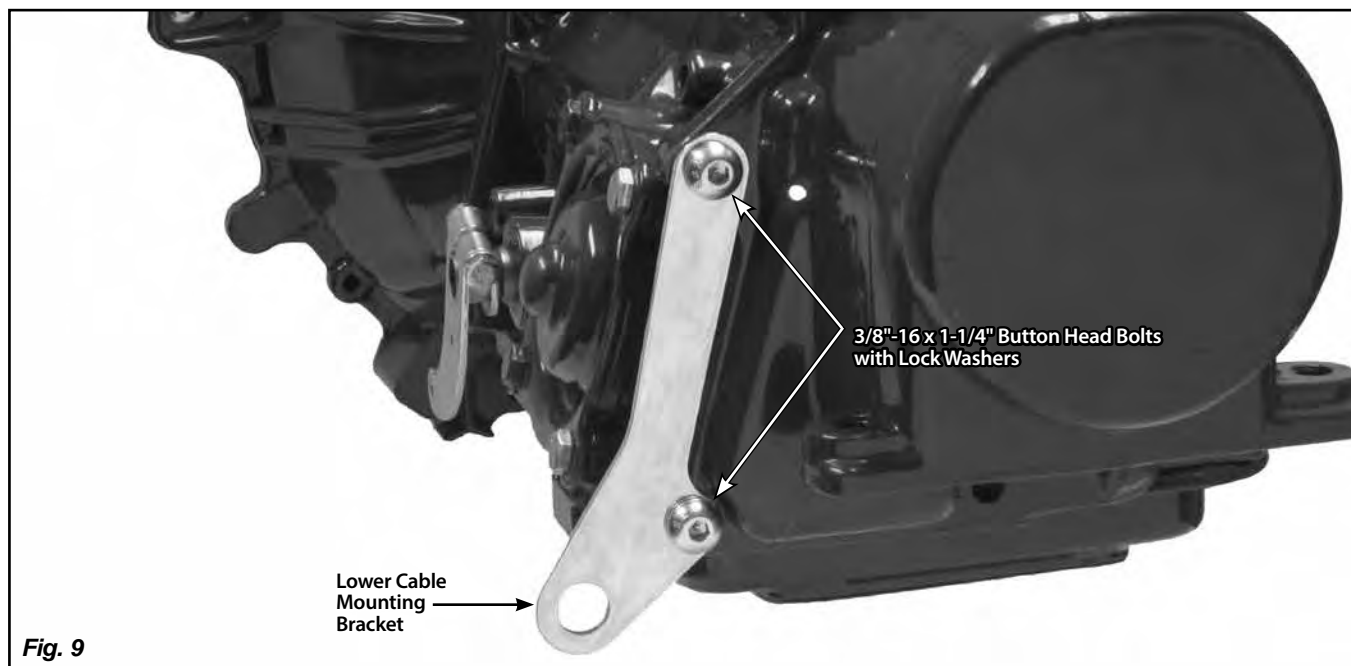

Fig. 9
**Step 8:** Remove the two lower left tailhousing bolts from the transmission. Install the lower cable mounting bracket onto the left side of the tailhousing, using the provided 3/8"-16 x 1-1/4" button head bolts and lock washers. **Fig. 9**